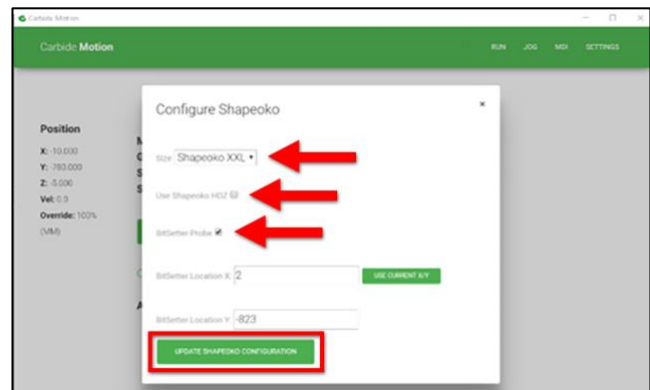

Figure 21
3. Select the appropriate size Shapeoko from the **Size dropdown list** (Shapeoko 3, XL, XXL). See *Figure 21*.